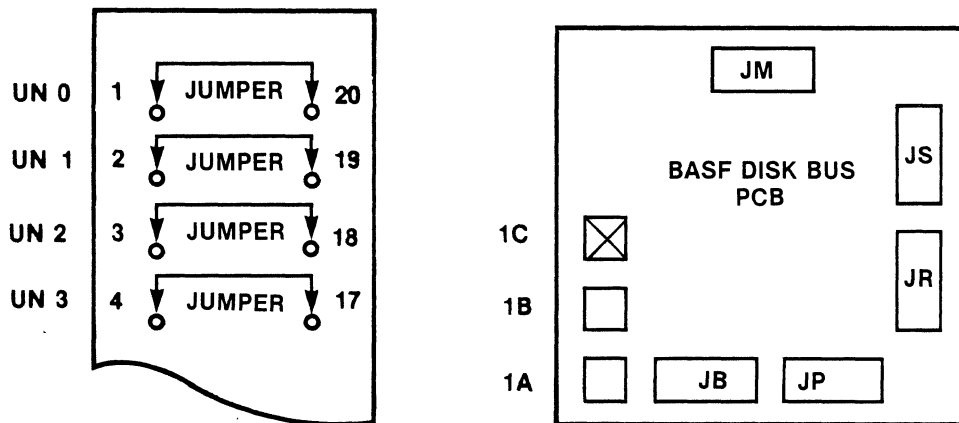

Figure 5-2. Unit Address Selection
1. UNIT ADDRESS SELECTION - There are four jumper locations; they are UN0 through UN3 and are located on the jumper block in PCB location 1C. PCB location is as shown in the lower right corner of Figure 5-2.